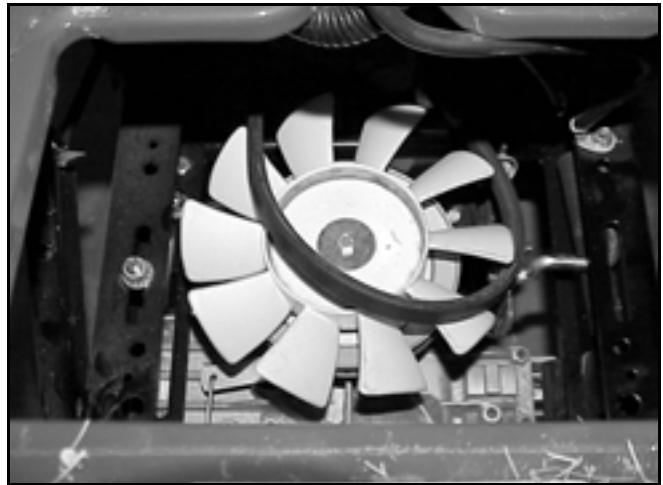

Figure 91
7. Install the traction drive belt around the transaxle input pulley (Figure 91).